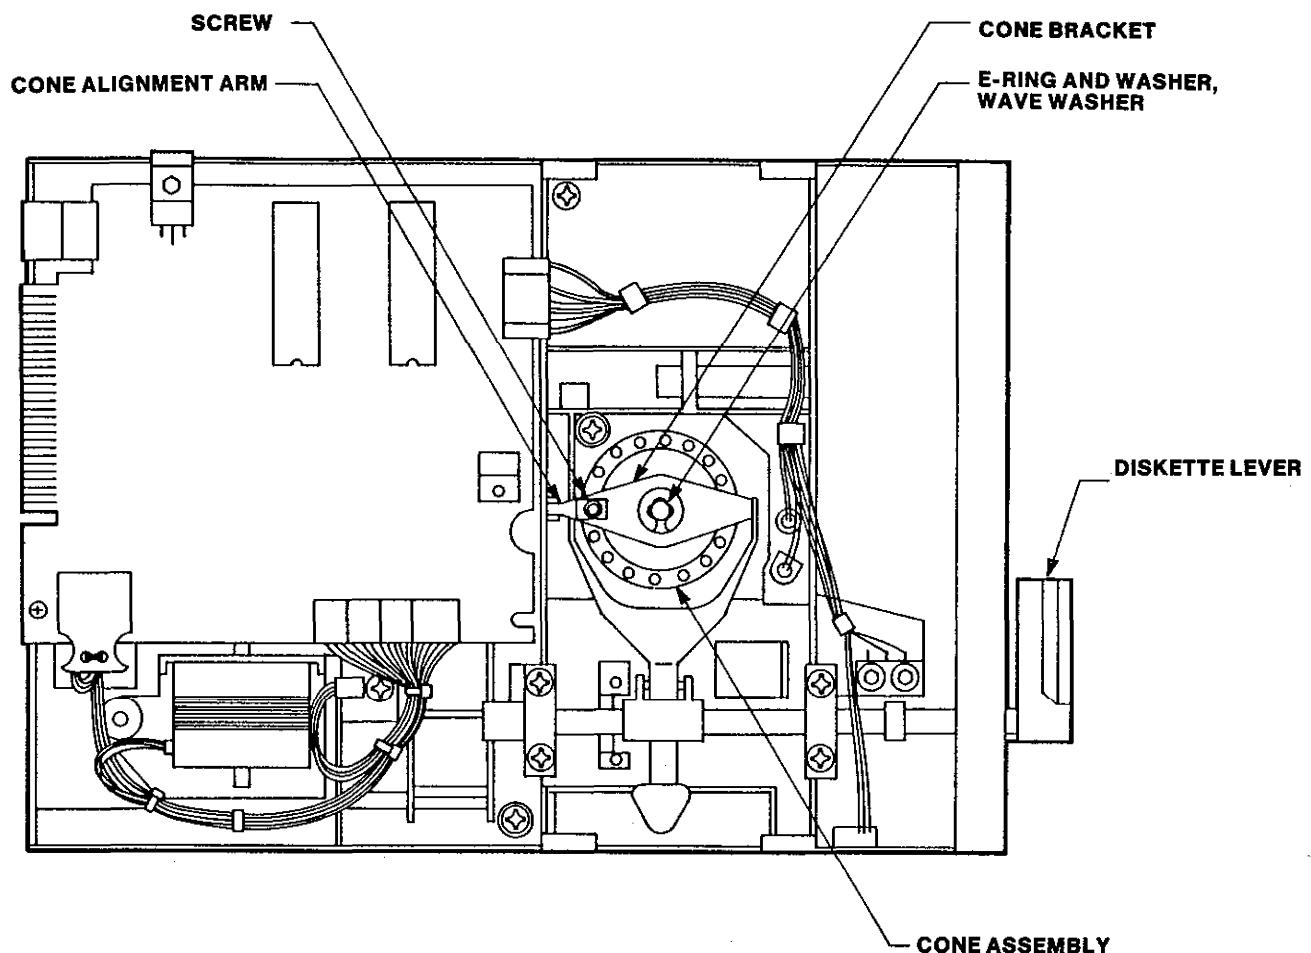

FIGURE 6-2
1. Remove the screw that attaches the cone bracket to the cone alignment arm (Figure 6-2).
5. Insert the screw that attaches the cone bracket to the cone alignment arm (Figure 6-2).